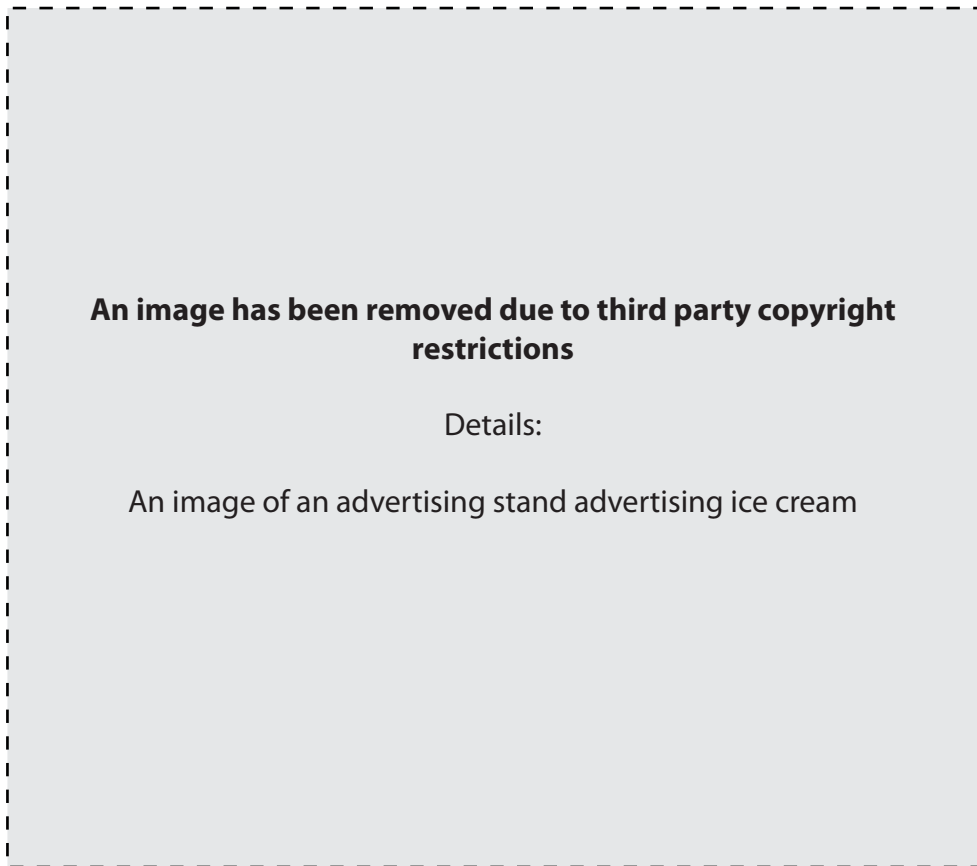
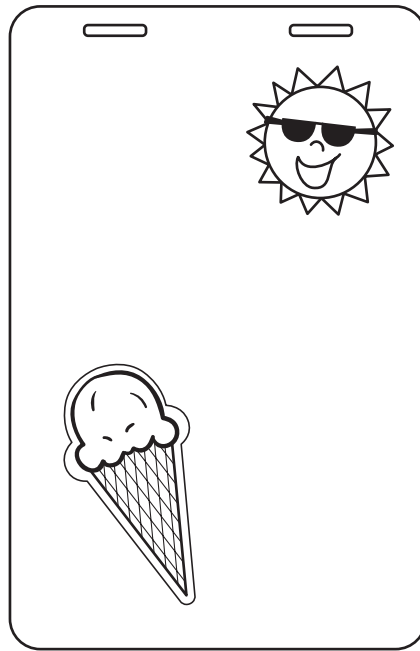

Fig. 6
Fig. 7
- 3 Fig. 6 shows an advertising stand.
Fig. 7 shows the advertising plate.
(b) Using the information from Fig. 6 complete Fig. 7 by adding the following dimensions: